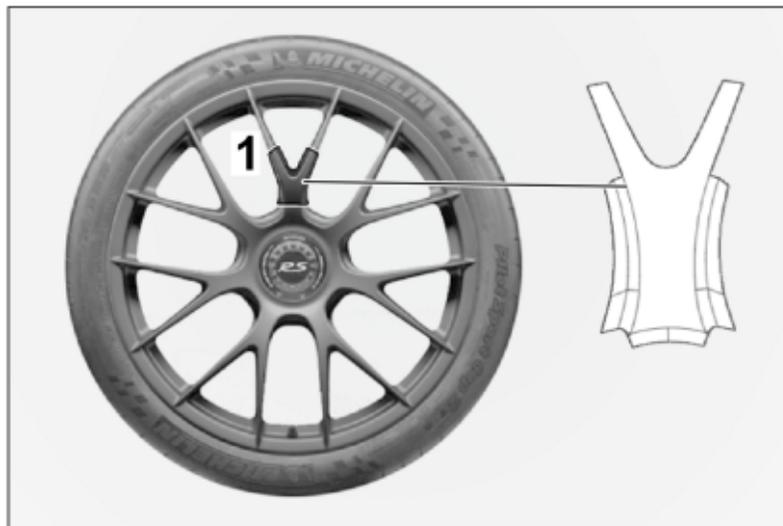

Figure 72
1. – Clean the surfaces for installing the rim protectors on the front and sides ⇒ *Figure 72 -1-* on all spokes (7 x) of each wheel. Before attaching the wheel covers, the adhesive areas for the rim protectors on the new rims must be degreased using a suitable